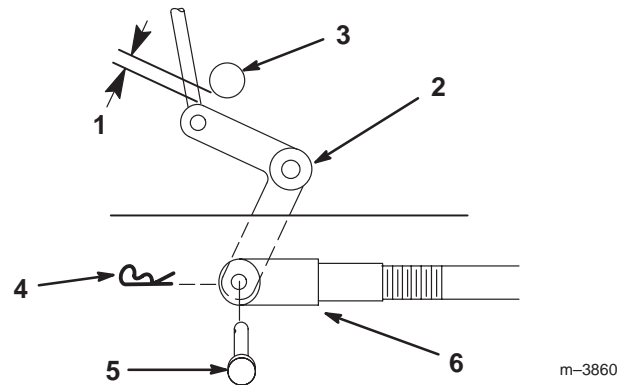
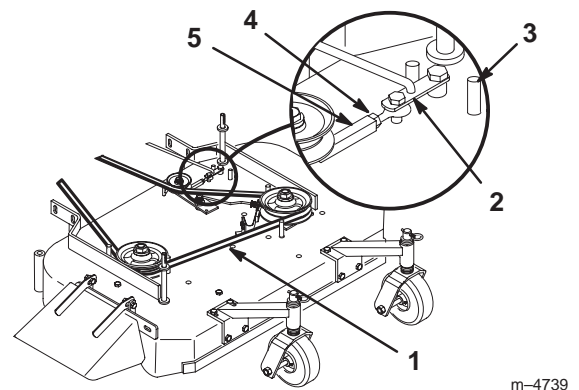

Figure 49
Figure 50
9. Check the clearance between the bell crank and the transmission output shaft (Fig. 49).
11. Rotate the clevis clockwise on the rod to increase the clearance; rotate it counterclockwise to decrease it (Fig. 49).
Note: If the assist arm does not contact the front stop on the mower deck (Fig. 50), adjust the clevis to bring the bell crank closer to the transmission output shaft (Fig. 49).
3. Loosen the locknut on the turnbuckle (Fig. 50).
4. Rotate the turnbuckle toward the rear of the mower to increase the tension on the belt. Rotate the turnbuckle toward the front of the mower to decrease the tension on the belt (Fig. 50).